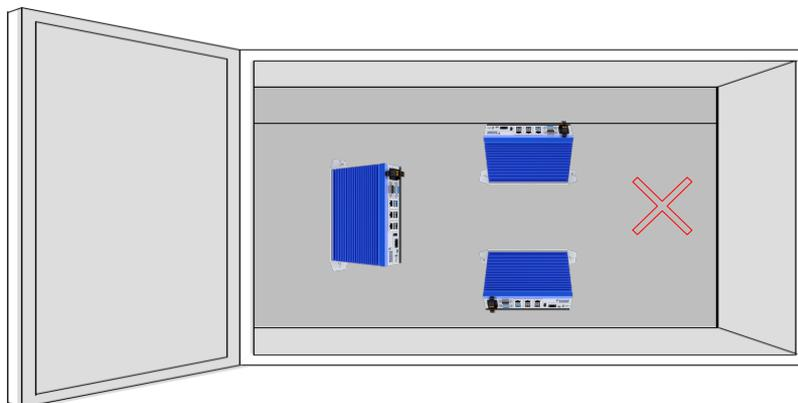

Figure 5-3 Wrong installation direction
- The controller cooling by a fan, and the cooling path is shown in Figure 5-3: